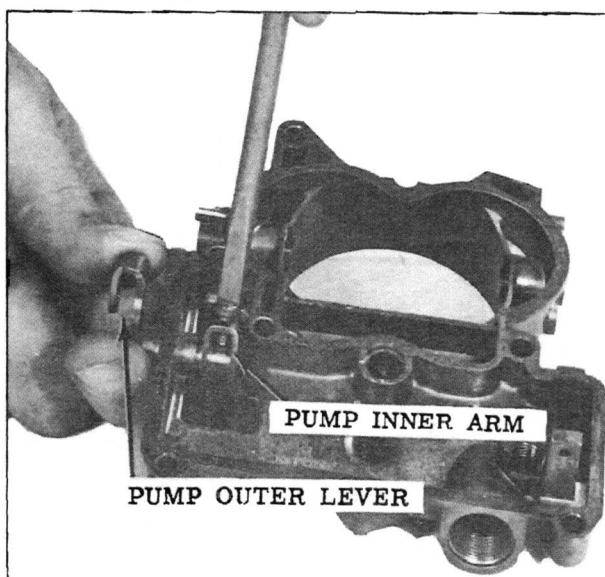

Fig. 30 Pump Inner Arm
- Assemble the outer pump lever and inner arm to air horn, and tighten set screw securely as shown in Fig. 30. Check to be sure shaft can rotate freely.